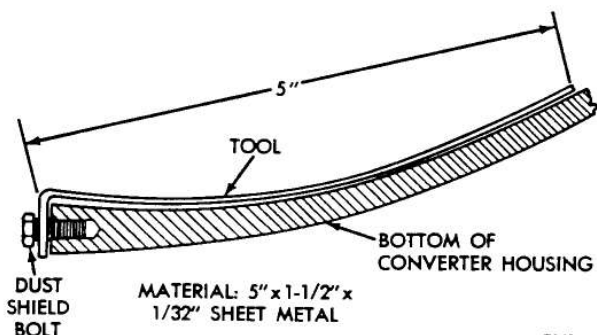

Fig. 7—Leak Locating Test Probe Tool
(1) Remove torque converter housing dust shield.
(2) Clean the inside of torque converter housing (lower area) as dry as possible. A solvent spray followed by compressed air drying is preferable.
(3) Fabricate and fasten test probe (Fig. 7) securely to convenient dust shield bolt hole. Make